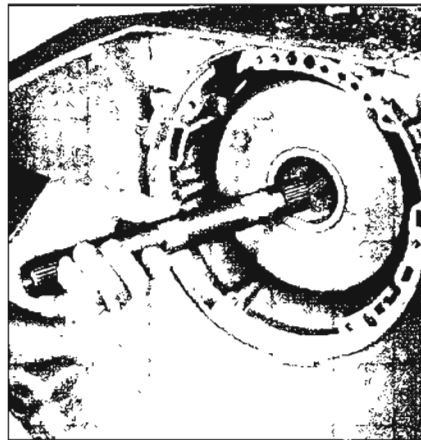

Figure 5-704
19. Install the turbine shaft, end with short spline into forward clutch housing. See Figure 5-704.